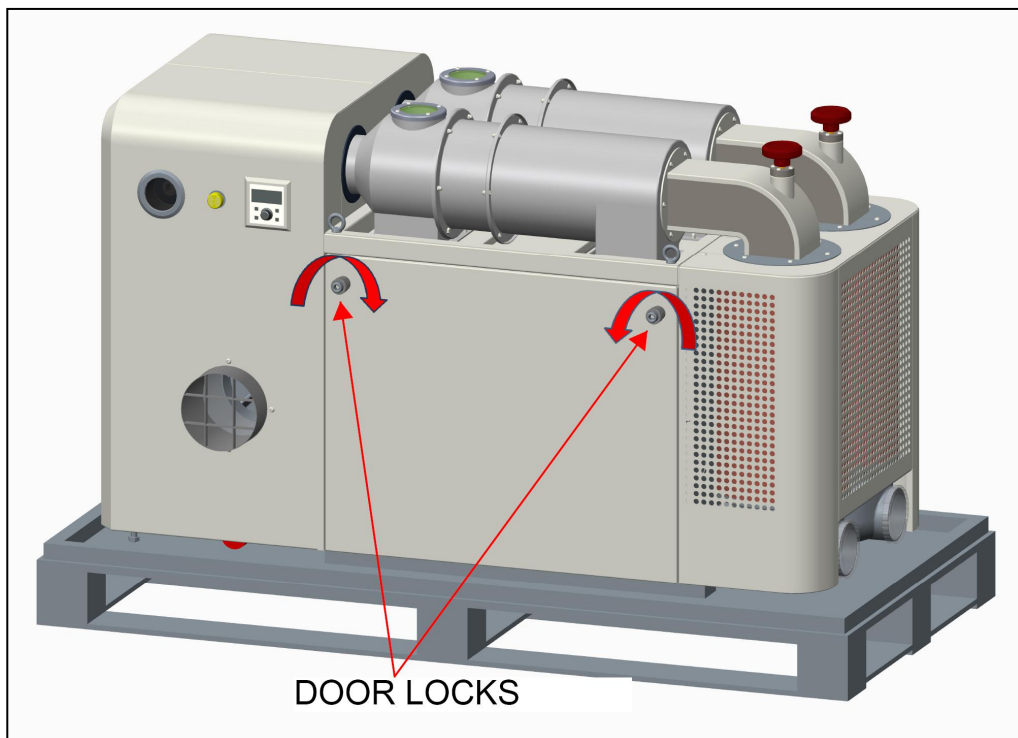
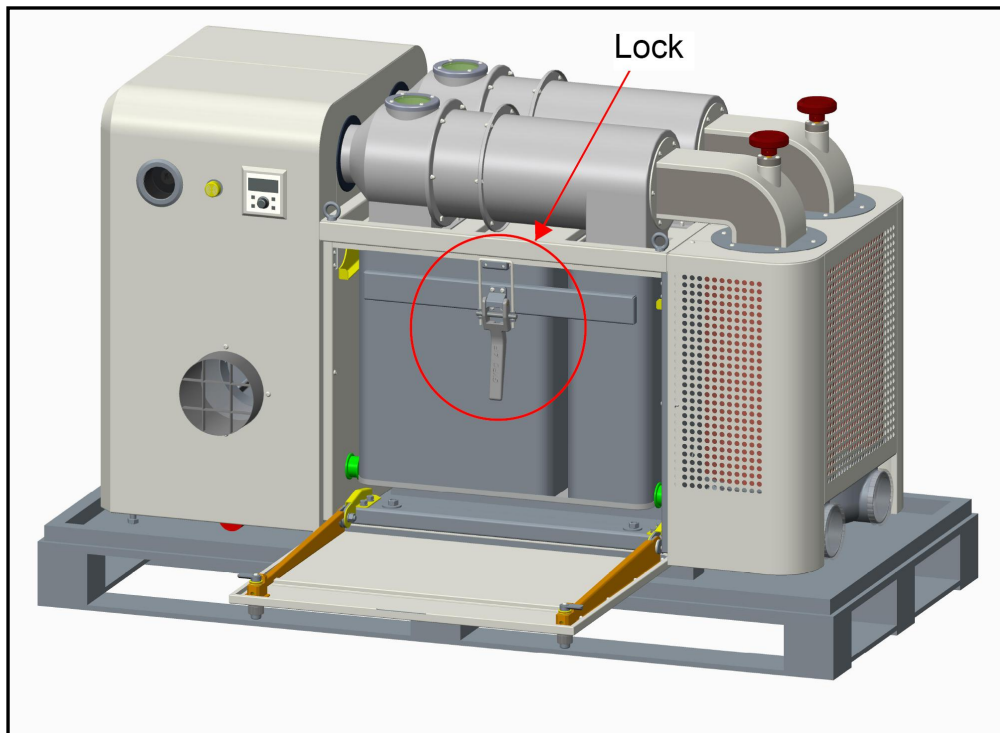

Fig.6
Fig.7
1. Remove the package box, keep the base unit on the pallet. As **Fig.6**
2. Rotating the knobs as arrow indicated (**see Fig.6**) to open the door. Then release the dust bin (**see Fig.7**) , you can slide the dust bin out.
Rotate the knobs as the arrow indicates (**see Fig.6**) to open the door. Release the dust bin (**see Fig.7**), you can slide the dust bin out.